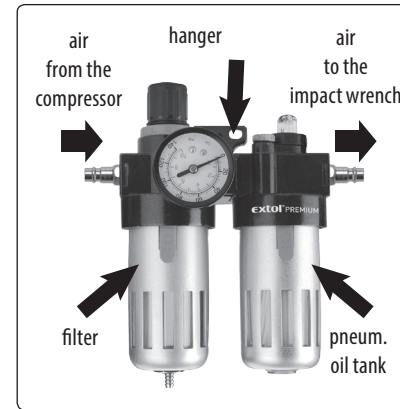

Fig. 10, description of the Extol® 8865105 Treatment unit
2. **At the inlet to the treatment unit connect the air hose from the compressor. At the air outlet from the treatment unit, connect the air hose and connect it to the air inlet on the impact wrench, see fig. 10.**